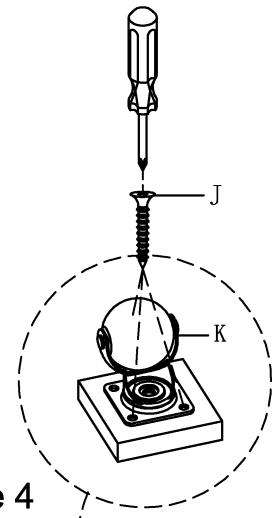

Figure 4
4. Attach the casters (K) to bottom panel using screw (J) as shown in Figure 4.